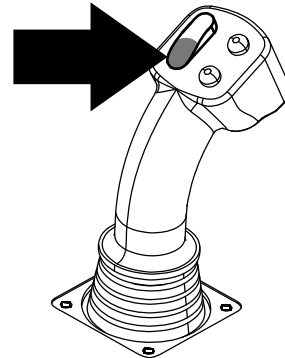

Figure 5
**Important:** Ensure that you hold the lower section of the cam rocker switch, on the left joystick, completely down until the action is complete in each step (Figure 5).